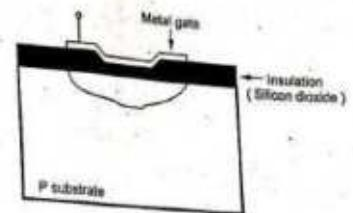

Fig. 7.10.1 MOS charge-coupled device structure
- Charge - coupled device (CCD) memory is a type of dynamic memory in which packets of charge are continuously transferred from one MOS device to another. The structure of a MOS charge-coupled device is quite simple, as shown in the Fig. 7.10.1. It consists simply of a P substrate, an insulating oxide layer, and isolated gates.